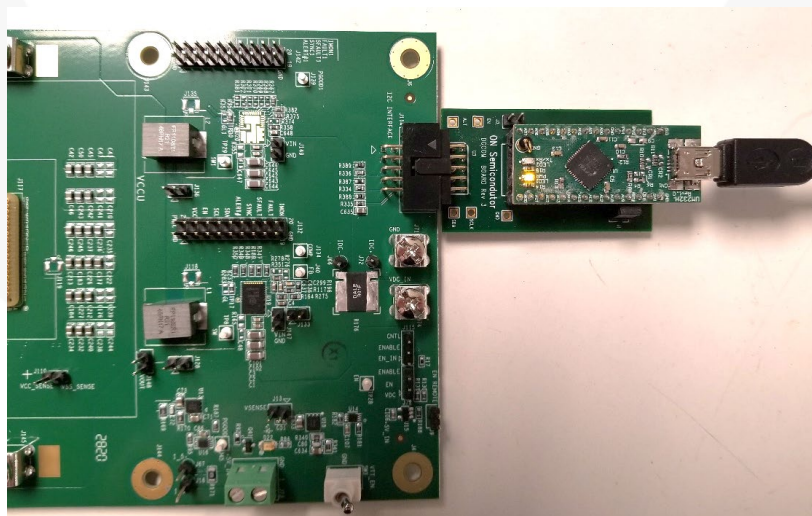

Figure 2. Evaluation Board I²C Interface Module Connection Diagram
- a. Connect the I2C Interface Module with the NCP3286 EVB through the I2C Interface Header, as shown in Figure 2.